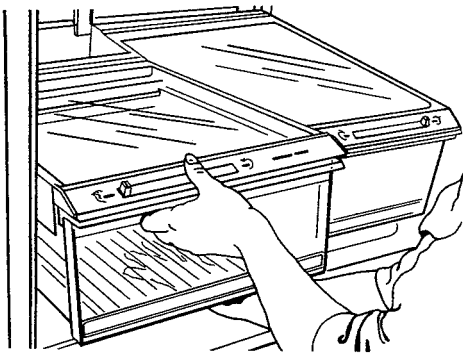

Figure 28.
- g. Remove crisper system on left* side by grasping and lifting up top front with one hand while reaching underneath drawer and pushing up with other hand. See Figure 28.